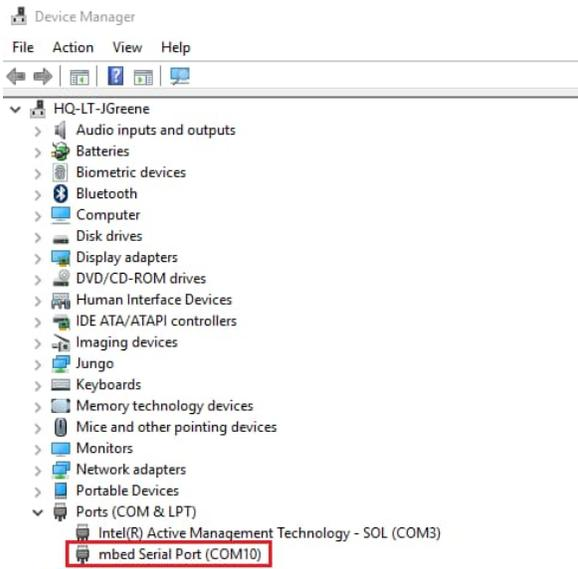

Figure 10. The COM port for the Mbed Serial Port can be found by opening the Device Manager and navigating to Ports (COM & LPT).
- Select the port to monitor in the Arduino IDE by navigating to **Tools/Port**: and select the desired COM port. To find what COM port the Mbed serial device is on, go to the PC's **Device Manager** and expand the **Ports (COM & LPT)** drop-down menu. The Mbed serial device is displayed, as seen in Figure 10. The Mbed device could be on a different COM port than what is shown in Figure 10.